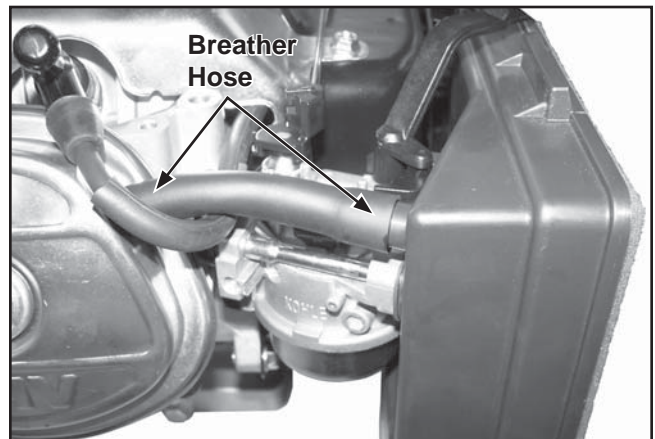

Figure 9-10. Disconnect One End of Breather Hose.
2. Disconnect one end of the breather hose from the valve cover or air cleaner base. See Figure 9-10.